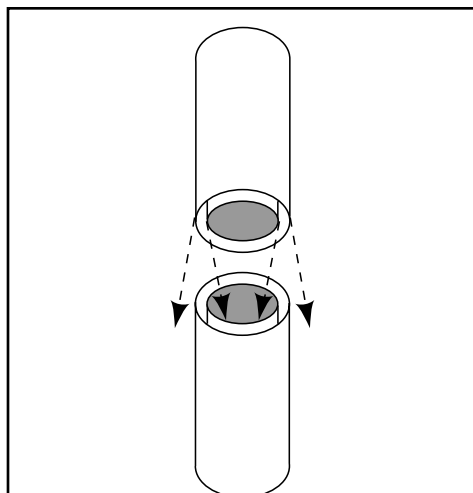

Figure 8.4 Assembling Chimney Sections
- Place inner flue to the inside of the chimney section below it. Place the outer casing outside the outer casing of the chimney section below it. Refer to Figure 8.4.